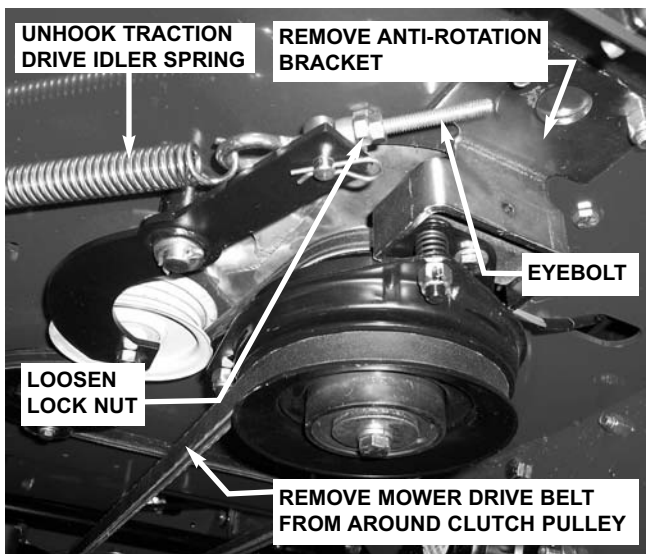

FIGURE 5.10
1. Remove mower drive belt from around clutch pulley. See Figure 5.10. Refer to Section "MOWER DRIVE BELT REPLACEMENT AND ADJUSTMENT".
2. Turn lock nut out to the end of eyebolt, reducing spring tension. Unhook traction idler spring from bolt in frame. See Figure 5.10.
3. Remove anti-rotation bracket. See Figure 5.10.
9. Reattach traction idler spring. Run lock nut all the way to the end of the threads on the eyebolt. See Figure 5.10.